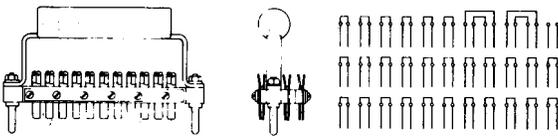

Fig. 4—233 Plug
2.08 233: The 233 plug (A&M Only) (Fig. 4) contacts are insulated from each other and are arranged in pairs. The 233 plug is provided with two guide posts for centering the plug in its corresponding jack. The plug has a wooden handle and is used with the 315 jack for emergency switching, patching plugs, and jack equipment of dial offices.